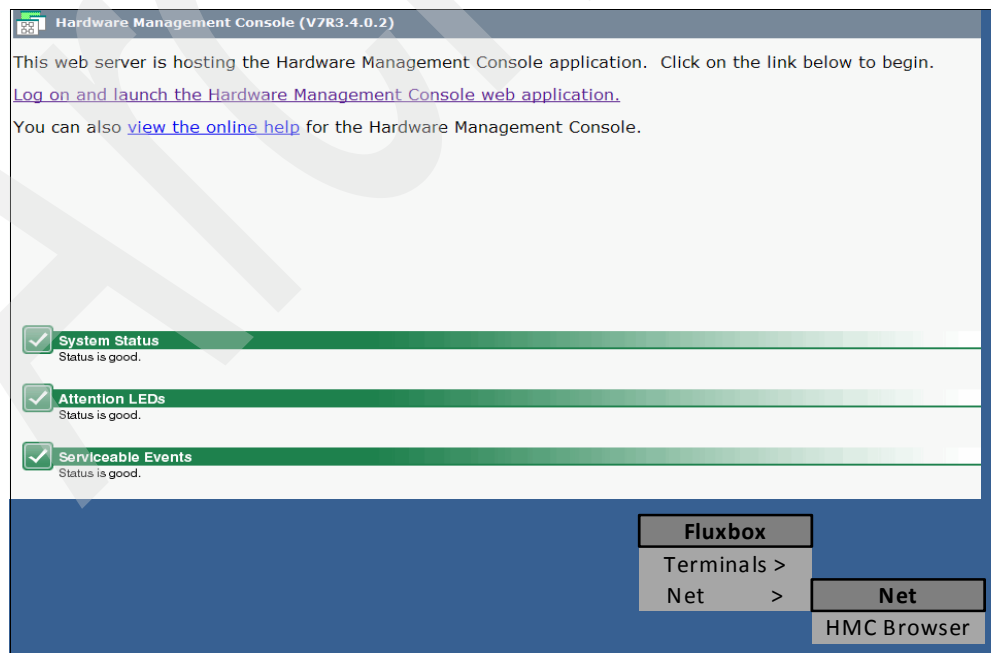

Figure 13-7 HMC Fluxbox
2. Right-click an empty area of the desktop to open a Fluxbox. Place the mouse cursor over the Net selection in the Fluxbox. Another box opens and shows the choices Net and Browser. See Figure 13-7.